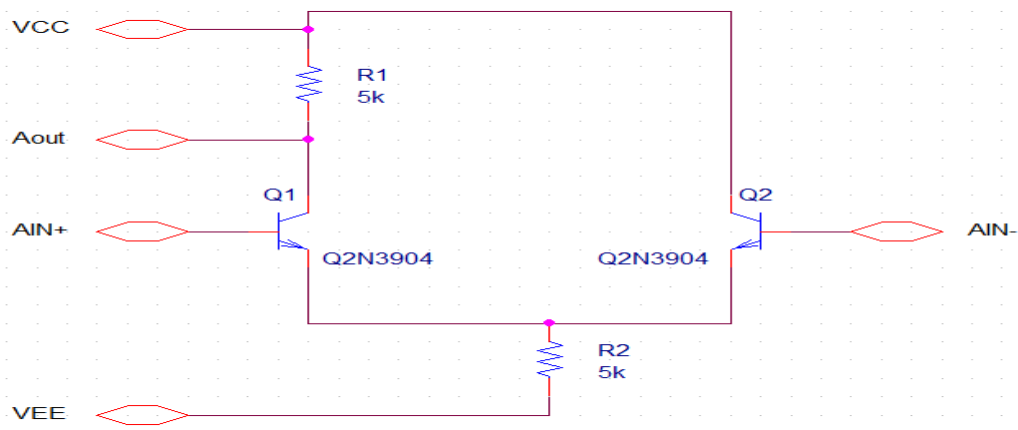

Figure 3: lowfirst schematic
- I. As mentioned earlier, we are dividing the amplifier into smaller modules, in our case, two modules as shown in Fig.3 and 4. Draw the circuits shown Fig.3 and 4 on separate schematics and save them as “lowfirst.sch” and “lowsecond.sch”, respectively.